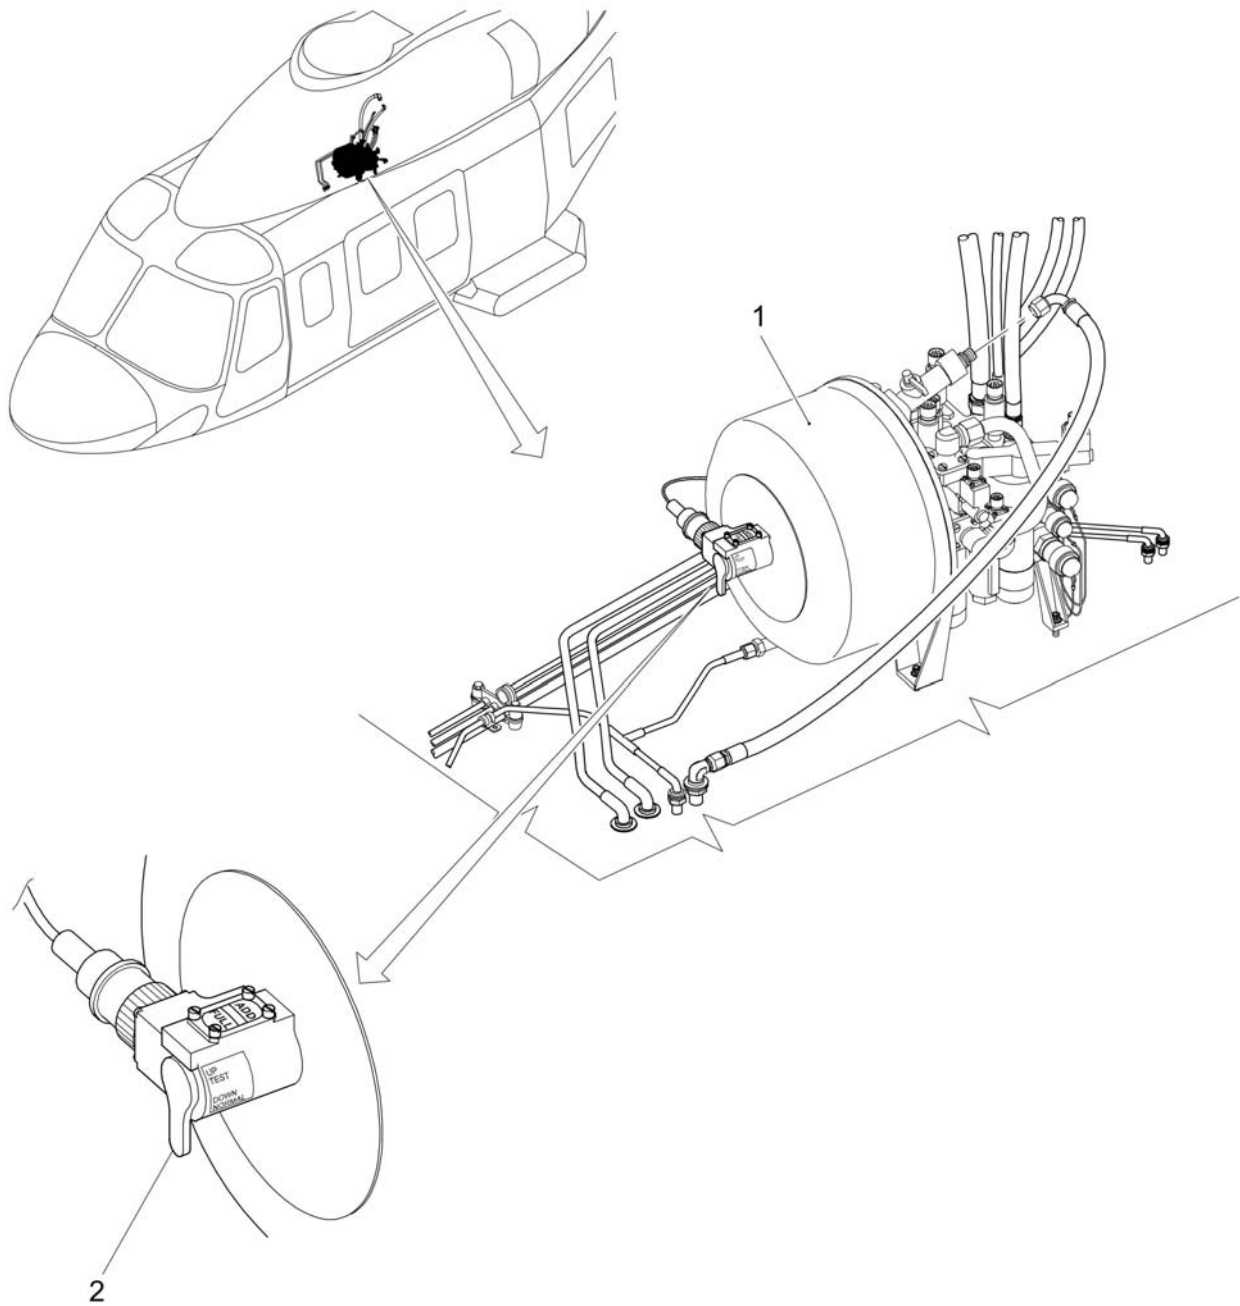

Figure 1
5.8 If, on MFD HYDRAULIC SYNOPTIC page, the closure of SOV 2 is indicated, replace the Number 2 power-control module (3). Refer to AMP, see DM no. 39-A-29-12-01-00A-520A-A and DM no. 39-A-29-12-01-00A-520A-A.
6. With reference to figures 1 and 3, do the operational check of the PCM1 Flight control shutoff valve as follows:
- 6.7 If On MFD HYDRAULIC SYNOPTIC page the closure of SOV 1 is indicated, replace the Number 1 power-control module (1). Refer to AMP, see DM no. 39-A-29-11-01-00A-520A-A and DM no. 39-A-29-11-01-00A-520A-A.
7. With reference to figures 1, 3 and 4, do the operational check of the Emergency landing gear shutoff valve as follows:
Refer to Figure 1 item (2)